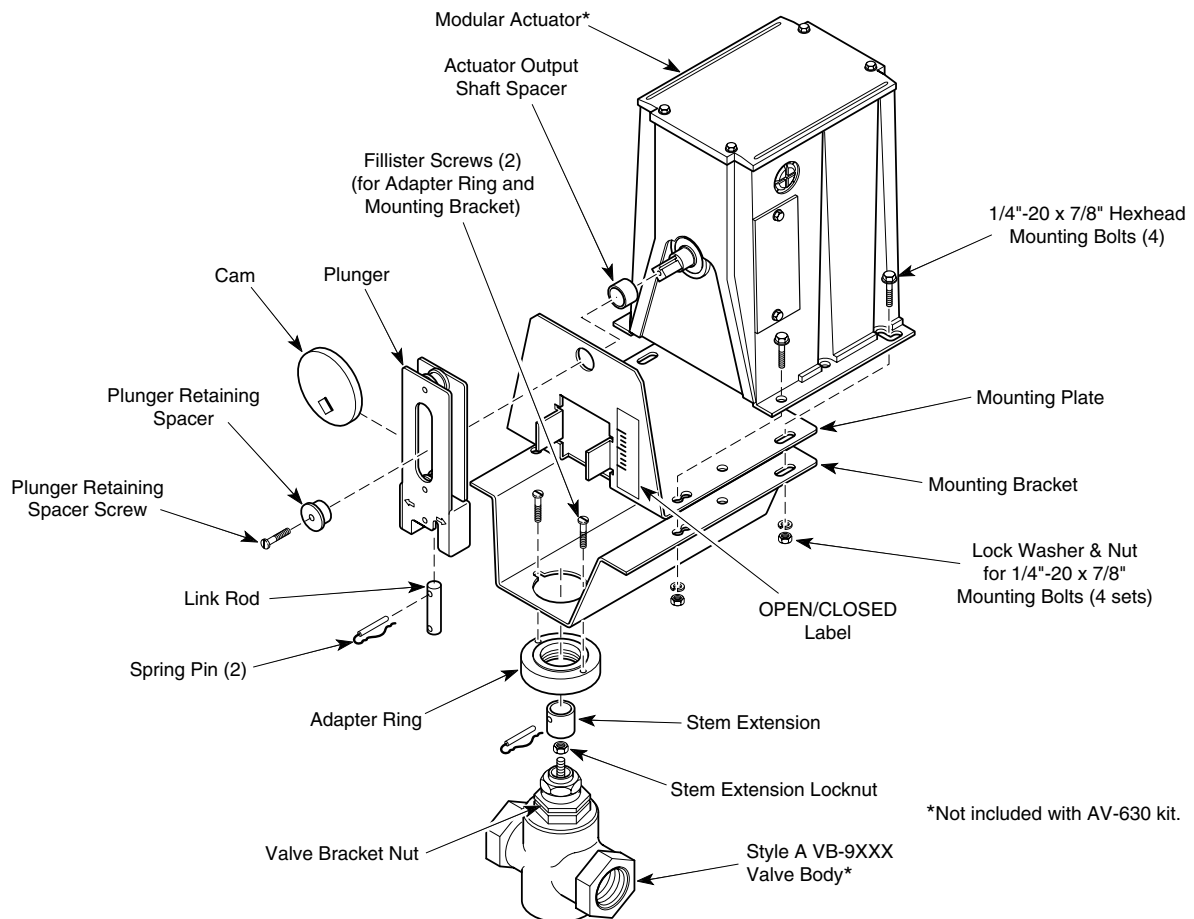
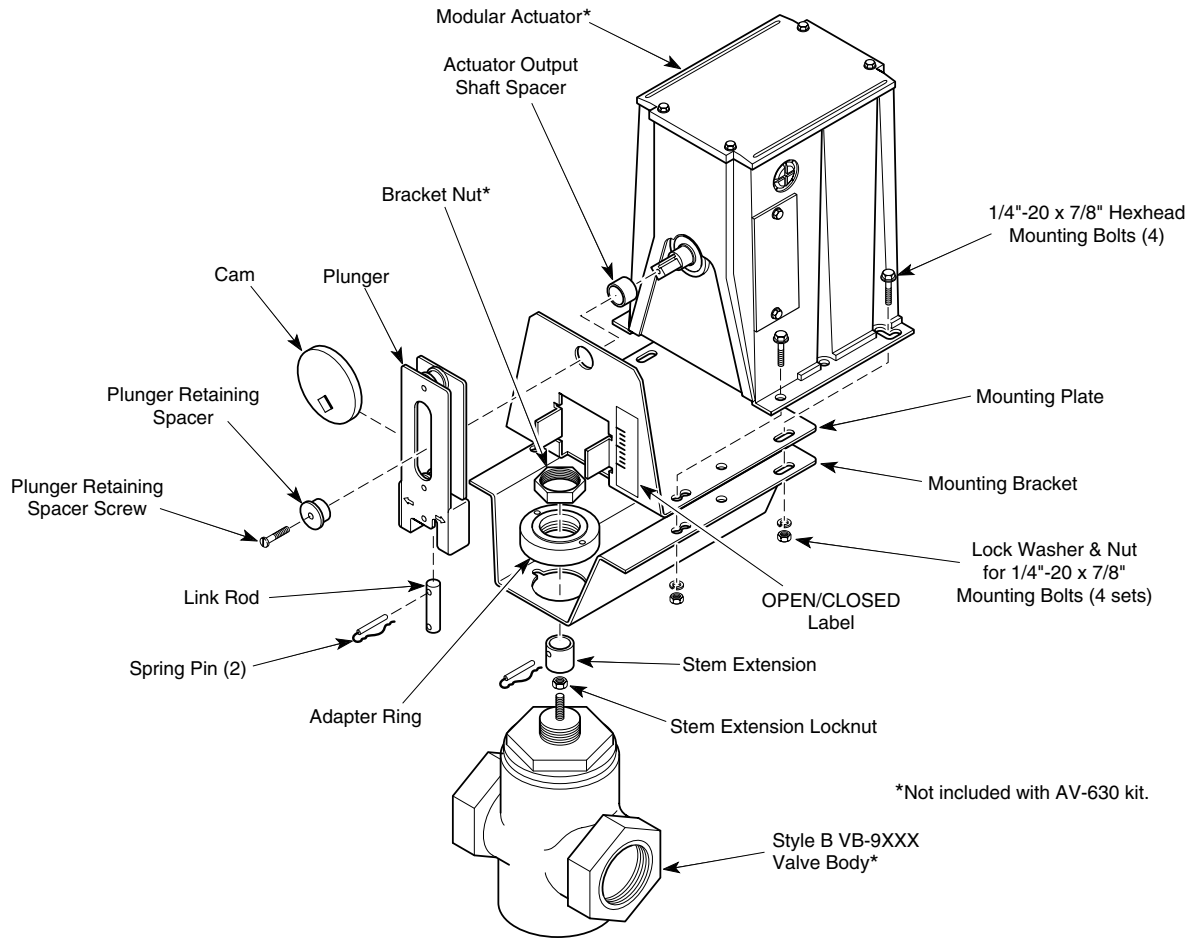

Figure-12 Assembly of AV-630 or AV-630-020 Valve Linkage with Style A VB-9XXX Valve Body.
Figure-13 Assembly of AV-630 or AV-630-020 Valve Linkage with Style B VB-9XXX Valve Body.
See Table-2, Figure-12, Figure-13, and Figure-14.
3. For style A VB-9XXX valves only, place the adapter ring on the underside of the valve mounting plate. See Figure-12.
4. For style A VB-9XXX valves only, insert the two 1/2" long fillister head adapter ring screws through the ears of the mounting plate adapter hole and into the adapter ring, and secure. See Figure-12.